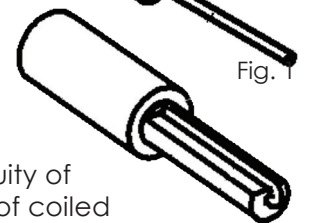

Fig. 2
3. Using sharp knife, strip away flat spot on remaining exposed fiberglass core approximately as deep as wire diameter. Cut exposed wire length according to above chart and lightly strip away thin coating on copper wire. Fold wire back along flat spot in fiberglass core (Fig. 2).